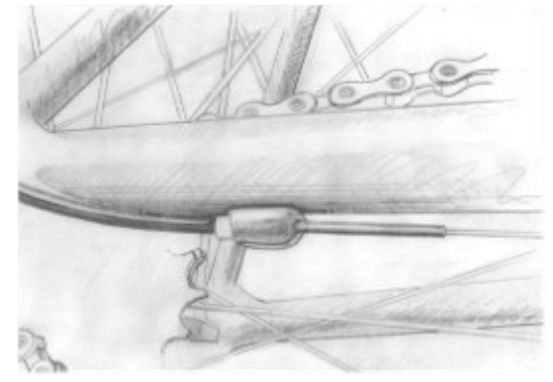
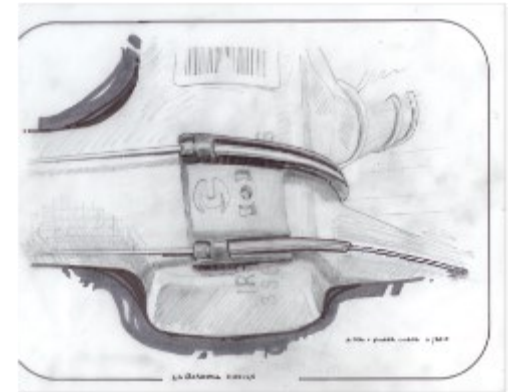

Fig. 2a—Nosed ferrule, Cordz exit housing
Fig. 3—Protective liner where Cordz cross under the bottom bracket
4. Lube the Cord as you push it through ferrules and housing. Use nosed ferrules where Cordz exit housing (fig. 2a, 2b) and protective liner where Cordz cross hard edges or under the bottom bracket (Fig. 3). Pull Cordz back and forth through each component of housing system to find high drag places and reduce the ferrules noses length or reroute as necessary to minimize friction. Finish installing housing.